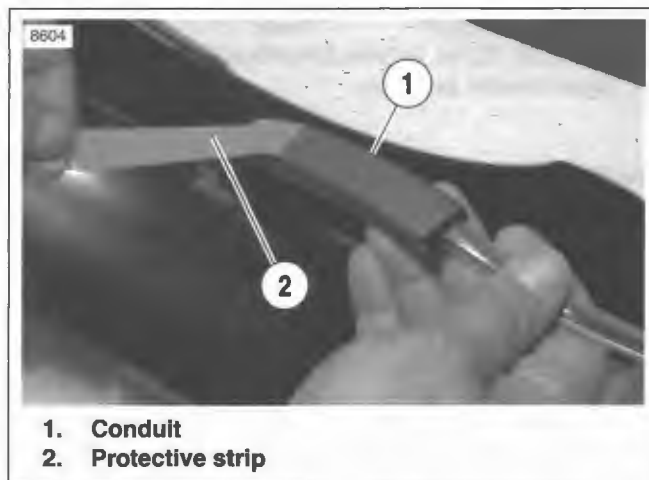

Figure 2-147. Removing Protective Strip From Conduit
6. See Figure 2-147. Remove protective strip covering adhesive on conduit.